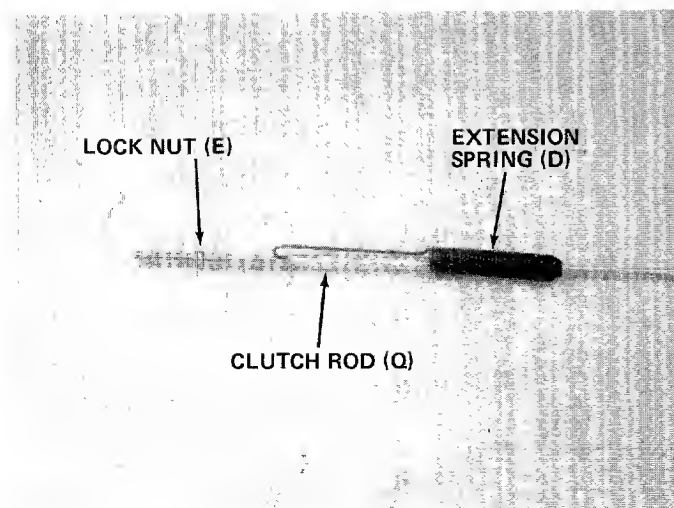

FIGURE 9.
7. Slide the extension spring (D) onto clutch rod (Q) as shown in figure 9. Thread lock nut (E) onto clutch rod approximately 2 1/2 inches.